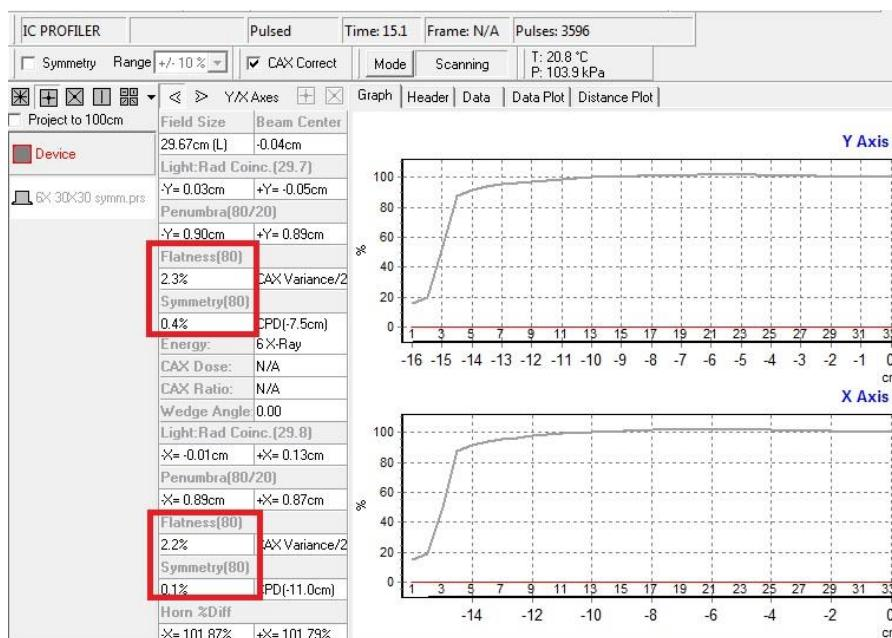

Figure 26: Profile Flatness and Symmetry Results
- Record flatness and symmetry results (Figure 26) in the data table, and verify that all values meet specification.